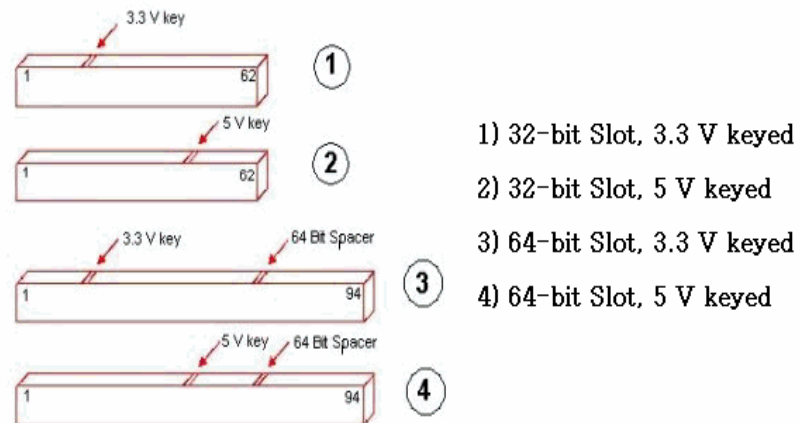
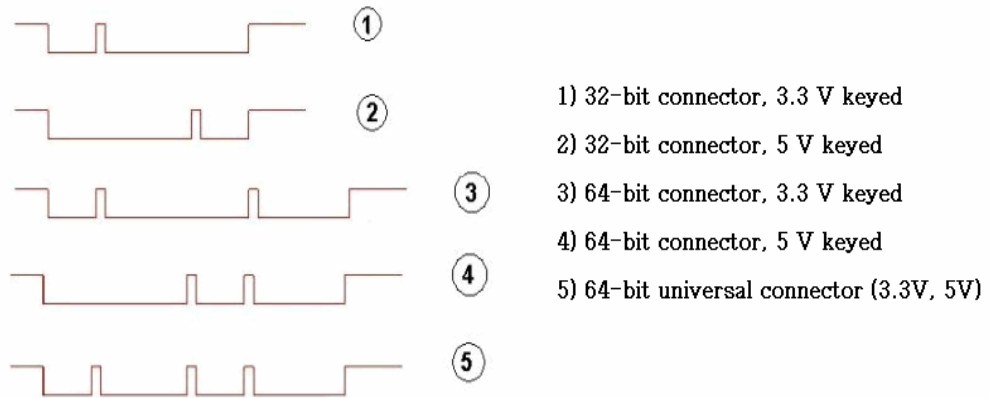

Figure 2 PCI slot types and voltage key locations
Figure 3 Adapter edge connectors
Figure 2 shows how PCI slots will appear with their keys and what type of voltage is provided for each slot type.
Figure 3 shows the adapter edge connectors compatible with the PCI slots shown in Figure 2 on page 29. Note adapter 5, which shows a universal adapter edge connector. Universal adapters are compatible with both 3.3 V and 5 V PCI slots.
**PCI-X (or PCI Extended)** slots increase the speed with which data travels over the bus. PCI-X slots appear identical to a 64-bit PCI slot keyed for 3.3 V. (Refer to number 3 in Figure 2 on page 29 and Figure 3.) PCI-X slots are backwards compatible with 3.3 V PCI adapters and universal adapters. Inserting standard PCI adapters into PCI-X slots will lower the bus speed as they cannot take advantage of the improved performance.
**PCI-X 2.0** is the next generation of PCI-X buses. PCI-X 2.0 increases the bus speed again, providing more performance for adapters. PCI-X 2.0 slots also appear identical to a 64-bit PCI slot keyed for 3.3 V. (Refer to number 3 in Figure 2 and Figure 3.) PCI-X 2.0 is also fully backward compatible with 3.3 V PCI and PCI-X.